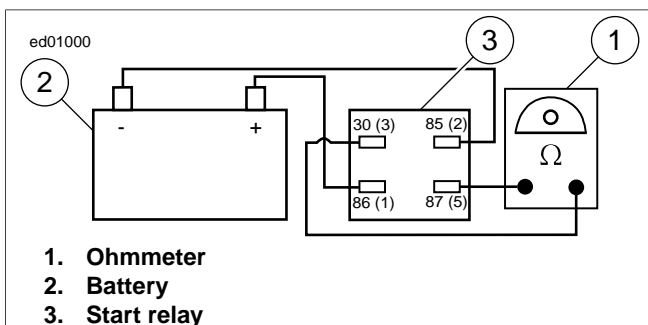

Figure 1-5. Start Relay Test
2. See Figure 1-5. Test the start relay using the motorcycle's 12 Volt battery and a digital multimeter.
- b. To energize relay, connect relay terminals 85 (2) and 86 (1) to the positive battery terminal.
- c. Check for continuity between the 30 (3) and 87 (5) terminals. A good relay shows continuity (continuity tester lamp on or a zero Ohm reading on the ohmmeter). Replace a malfunctioning relay that does not show continuity.